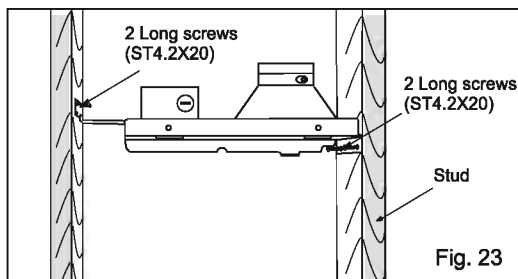

Fig. 23
3. Secure it to stud by using long screws (ST4.2X20). (Fig. 23)